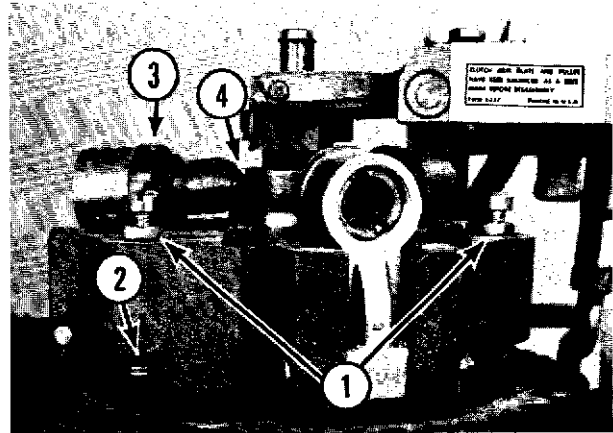

Fig. 7-9
- (3) Back off the three release spring screws (1, Fig. 7-9) until they no longer contact the release springs (2, Fig. 7-9).
- (4) Loosen the three clutch spring screw locknuts (3, Fig. 7-9).
- (5) Adjust the clutch spring screw to achieve a clearance of $9/64"$ between the ball and cam (4, Fig. 7-9). Use a $9/64"$ (.142) drill bit as the gauge.
- (6) Lock the clutch spring screw with the locknut (3, Fig. 7-9).
- (7) Repeat steps (5) and (6) on the other two clutch spring screws. Recheck the $9/64"$ clearance between the ball and cam on the three clutch arms.
- (8) Turn the three release spring screws in until they just touch the spring discs.